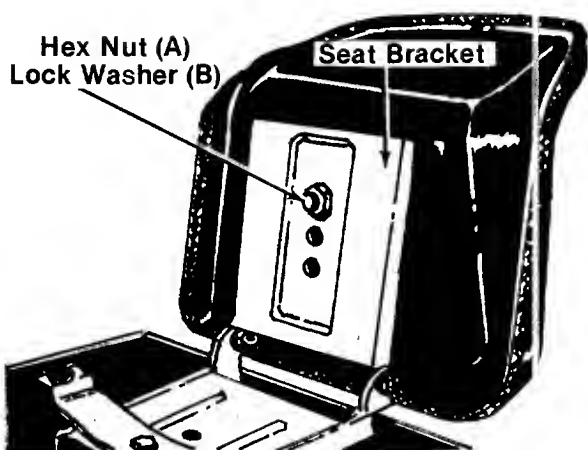

FIGURE 11.
The seat may be adjusted to three different positions. Select the desired seat position and secure the seat to the seat bracket with hex nut (A) and lock washer (B). See figure 11.